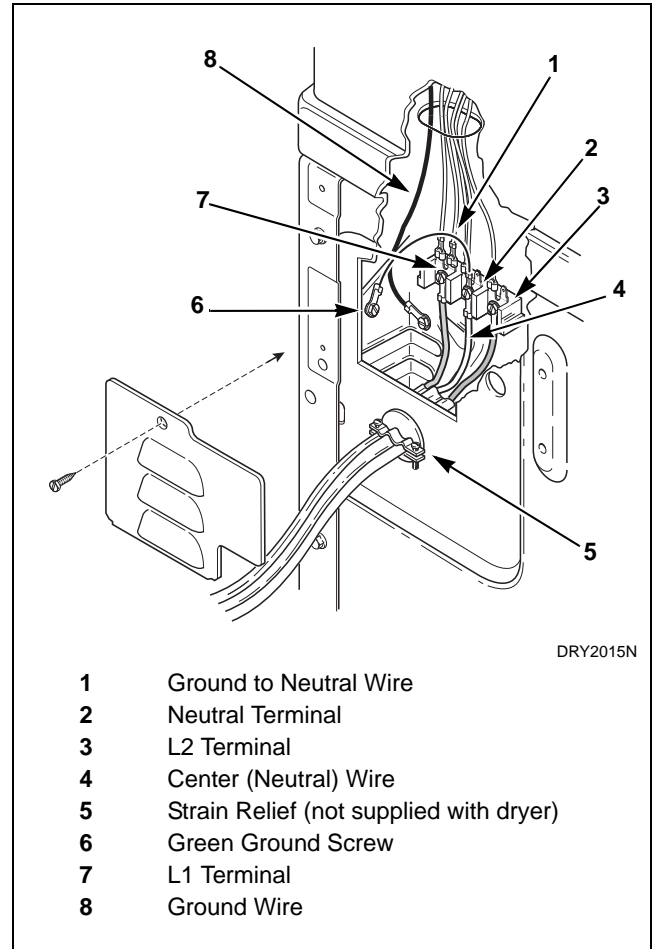

Figure 25
- Use the three silver screws removed in step 3 to attach the wires from the new power cord and the other end of the green ground wire to the terminal block as shown in *Figure 25*.